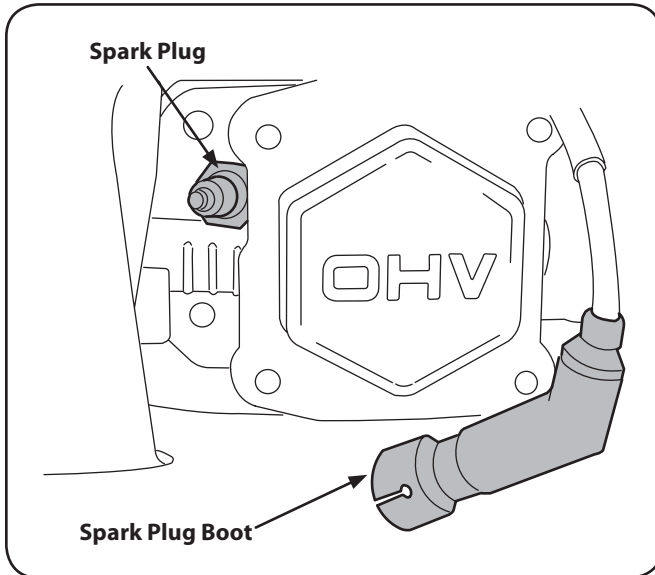

Figure 11-3
1. Remove the spark plug boot and use a spark plug wrench to remove the plug. See Fig. 11-3.